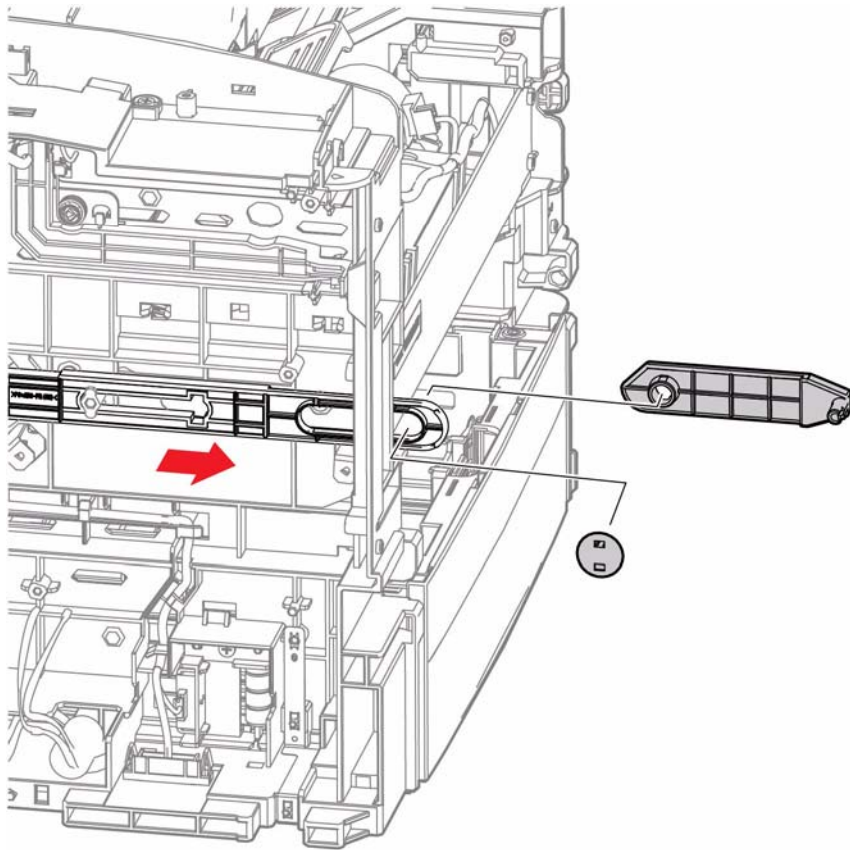

Figure 1 Remove the Front Link
3. Refer to Figure 1 to locate and release the Link Connector clips from the link shaft to remove the Front Link.